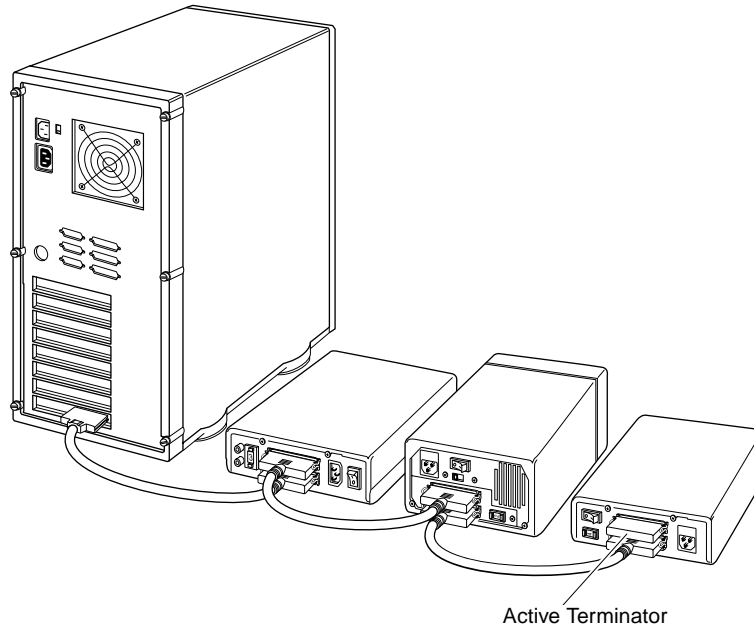

Figure 2-9. Attaching Multiple External Devices
- 4 Connect other external SCSI devices by daisy-chaining each device to the previous device until all external SCSI devices have been connected, as shown in Figure 2-9. (The device at the end of the chain must have an active terminator installed. See *SCSI Termination* on page 2-14 for additional information.)